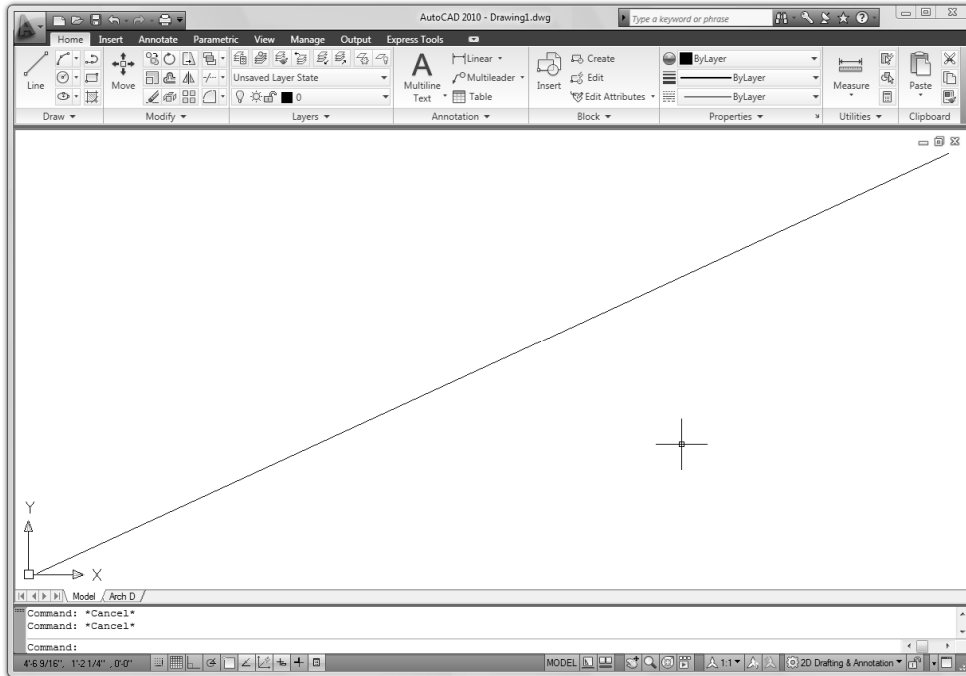

Figure 2-1.4 Your first line!
- 9. **Draw a line** from the lower left corner of the screen to the upper right corner of the screen (by simply clicking two points on the screen); see **Figure 2-1.4**.